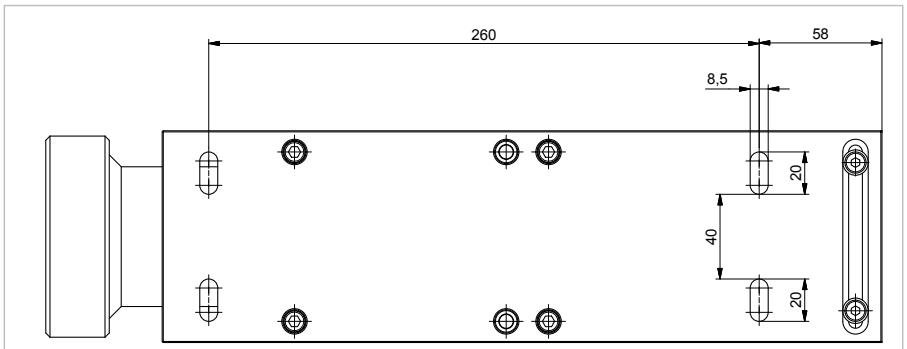

Figure 2
- ▶ Fasten the mounting onto the mounting holes on the fueling station (*Figure 2*).